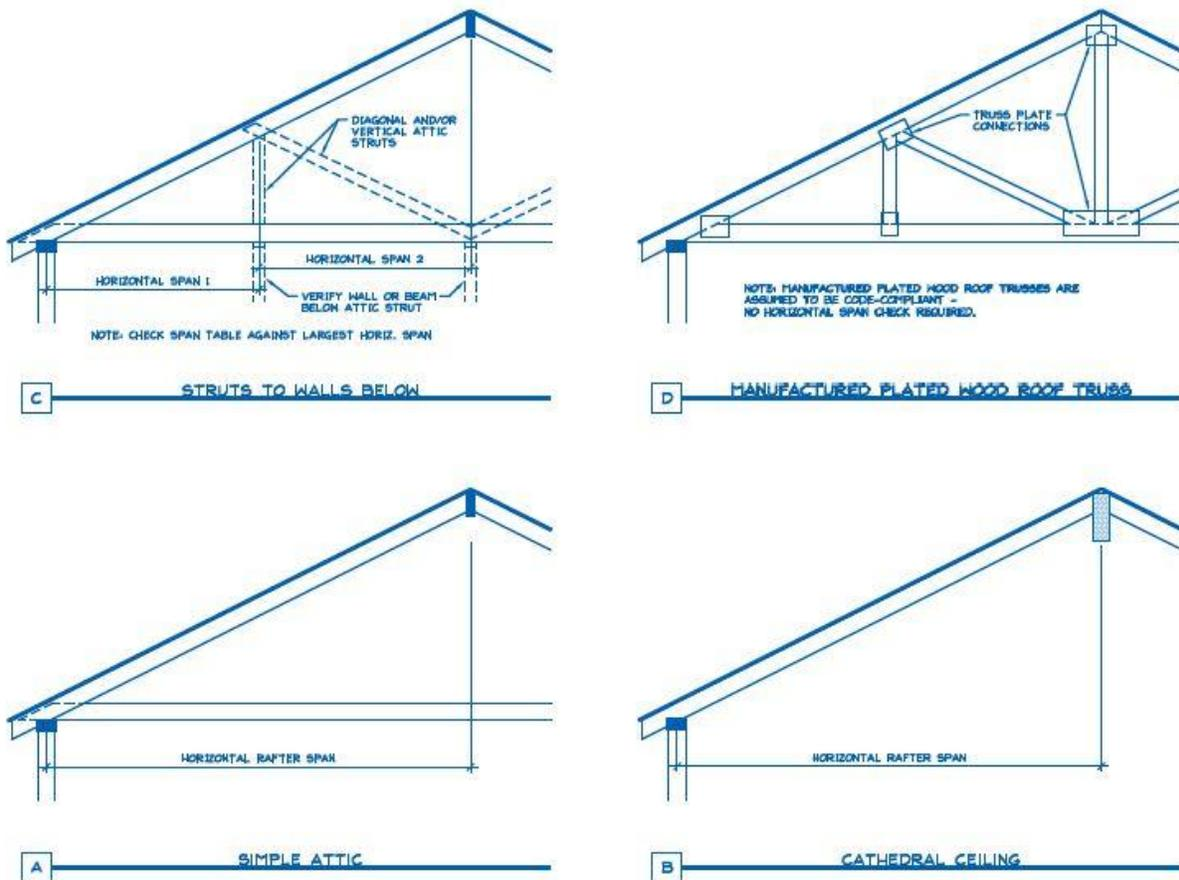

Figure 3 Definition of Rafter Horizontal Span
- 4) Anchor fastener data (see Figure 3):